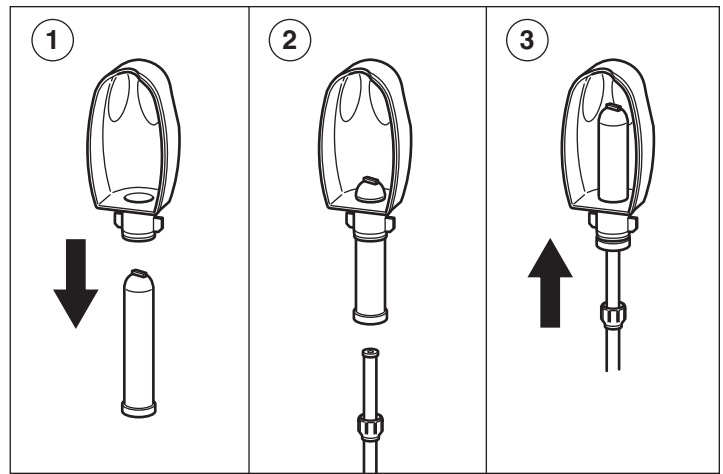

Figure 17. Bladder Replacement
3. Use the smooth end of the extension to push the bladder into the chamber. Make sure the bladder is fully seated. See Figure 17.